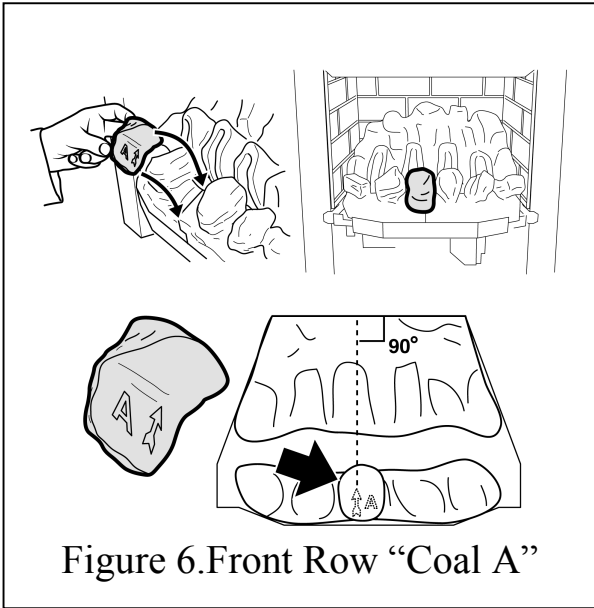

Figure 6. Front Row "Coal A"
8. Hold coal 'A' upright with the arrow pointing to the top. Locate coal 'A' as shown in figure 6.